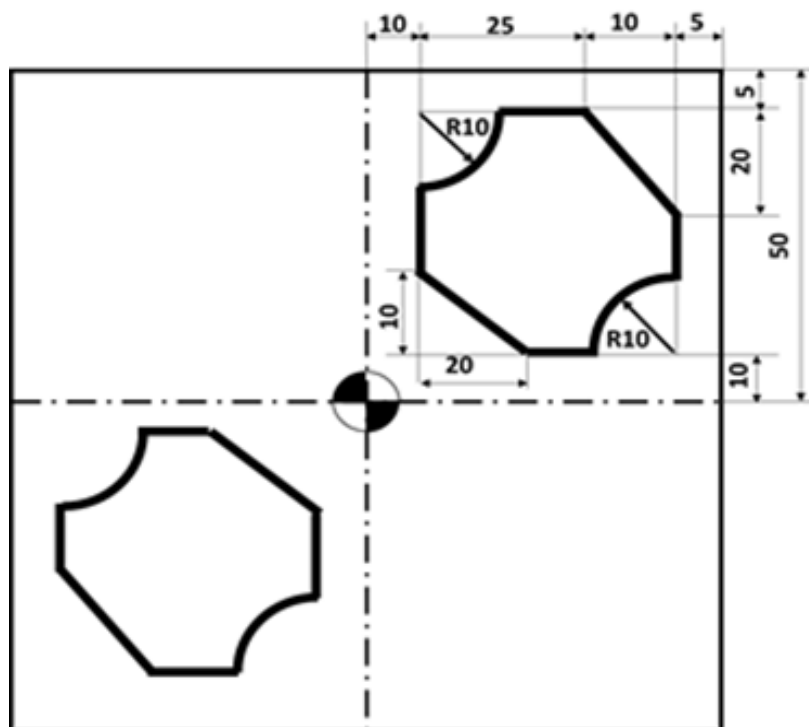

Figure 2
- 5C** Write a CNC part program to perform the mirroring operation on the component as shown in the Figure 2. Depth of the contour = 1mm. Take cutter diameter = 3 mm. Size of the work piece is 100 mm x 100 mm x 10 mm